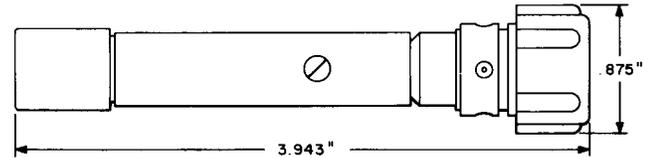

Fig. 2—203A Adapter
**2.02 203A:** The 203A adapter (Fig. 2) consists of a 477D jack, less mounting plate, on one end, and a KS-14982, L3, jack on the other end. This adapter is used for testing and fault-location work in coaxial cables of the L1, L3, and L4 Carrier Systems.